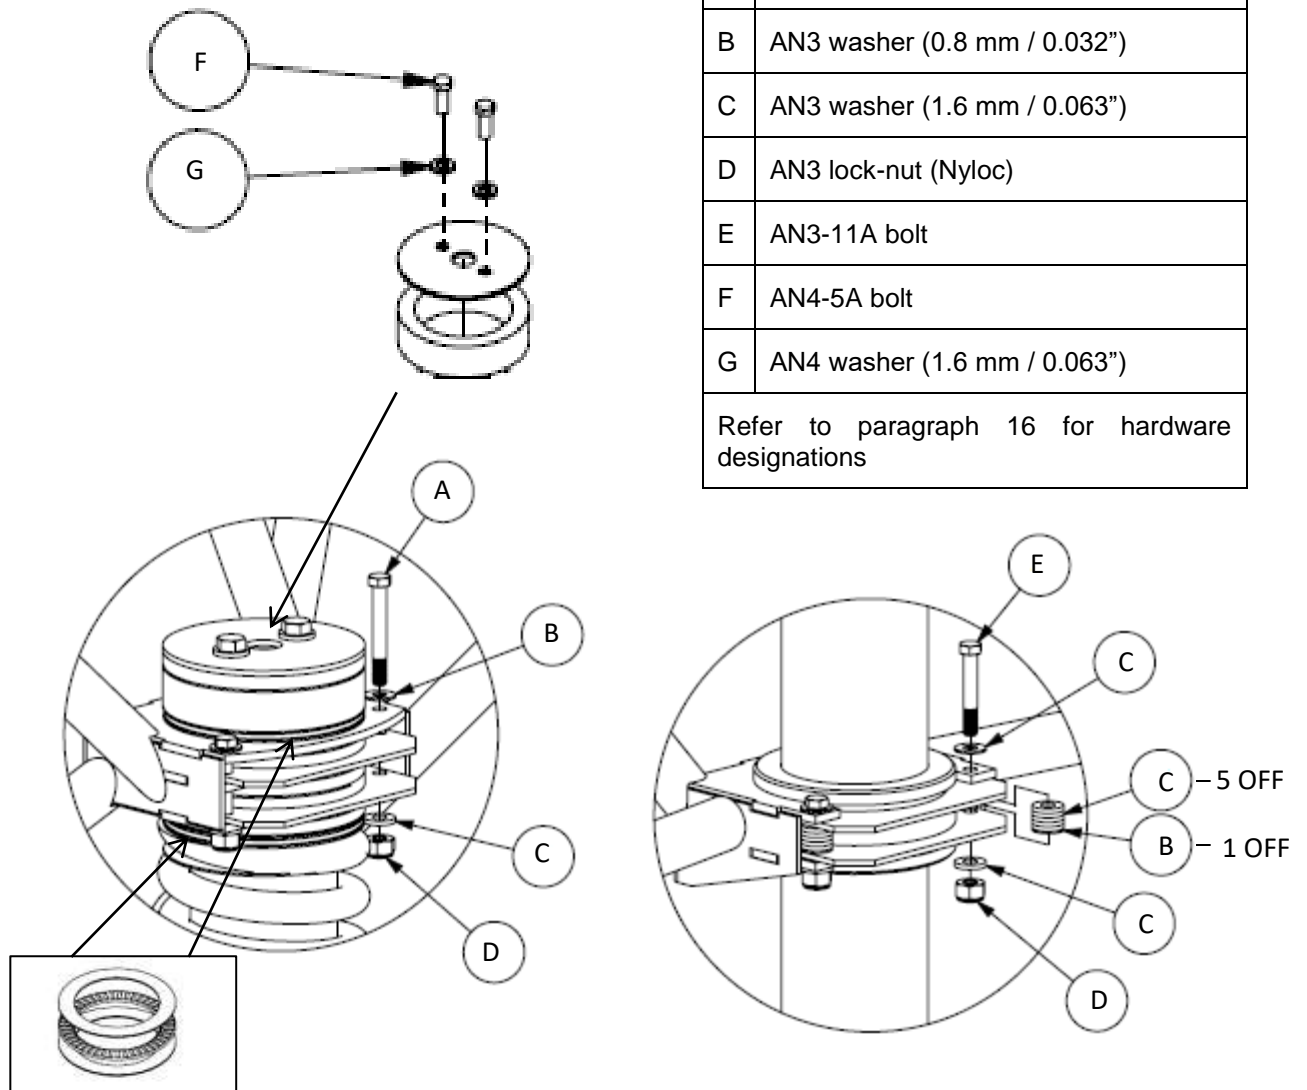

Figure 42: Nose gear installation.
- Tighten the lock-nuts sufficiently, observe the correct placement of washers and bearings (refer to Figure 42) and note that the bolts are installed with the bolt heads head facing up.